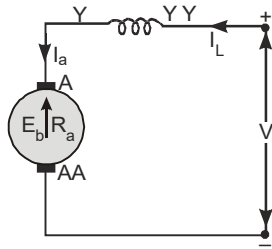

Fig. 4.58: Circuit of series motor
- (ii) **Series motor** : Its conventional diagram is shown in fig.4.58.